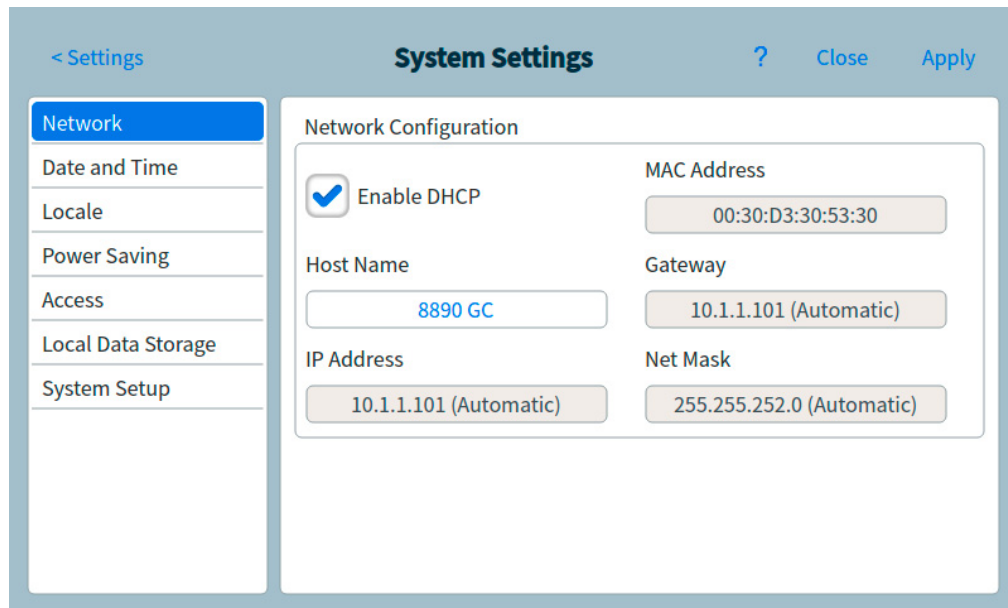

Figure 44. Network Configuration page
- 1 From the System Settings page, select the **Network** page selection button. The Network Configuration page appears. See **Figure 44**.